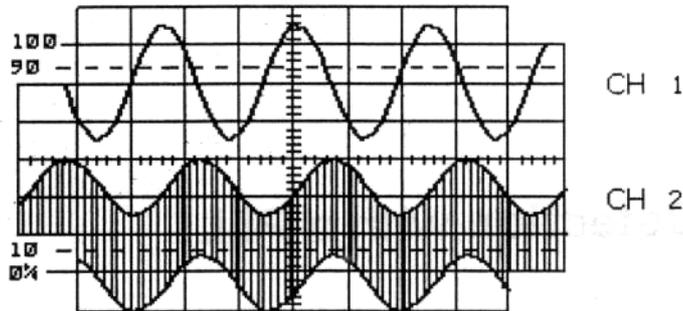

Figure 7-24.
36. Connect the FUNCTION GENERATOR'S output to the (M) terminal on the VCO-LO circuit block. Connect the CH1 probe to (M), Adjust the FUNCTION GENERATOR for a $100 mV_{pk-pk}$, 3 kHz sine wave message signal at (M).
37. Connect the CH2 probe to the PHASE DETECTOR output. Set CH2 to 10 V/DIV and the oscilloscope sweep to 2 ms/DIV. The oscilloscope signals should appear, as shown in Figure 7-24.